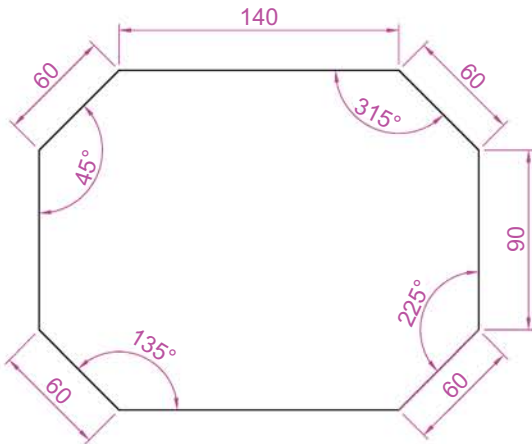

Fig. 3.30 Exercise 3
3. Using the **Line** tool, construct the outline (Fig. 3.30).